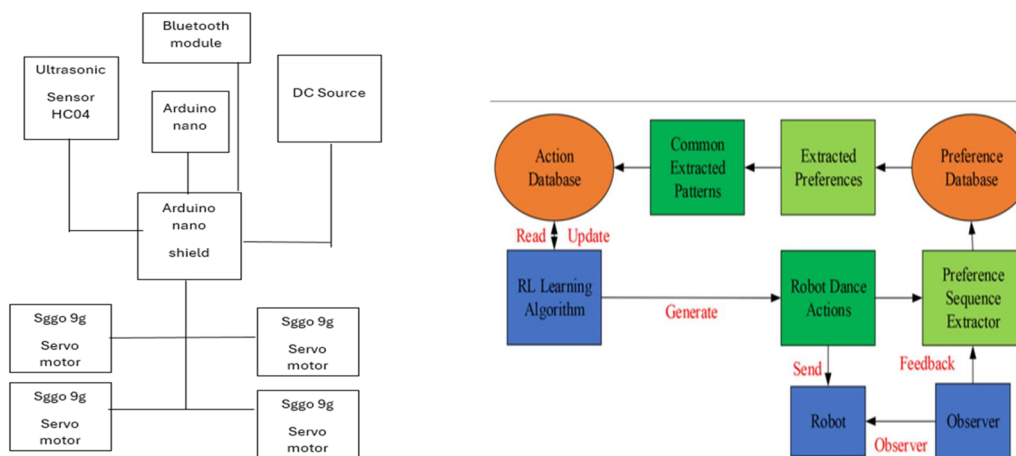

Fig. 2: Block-diagram of the overall developed dancing robot
Arduino nano-os :It is the operating environment or ecosystem in which an Arduino Nano microcontroller board operates [27]. However, it's important to clarify that Arduino Nano itself does not run a traditional operating system (OS) like those found on computers or smartphones [28]. The block-diagram of the entire system developed is depicted in Fig. 2 [13].